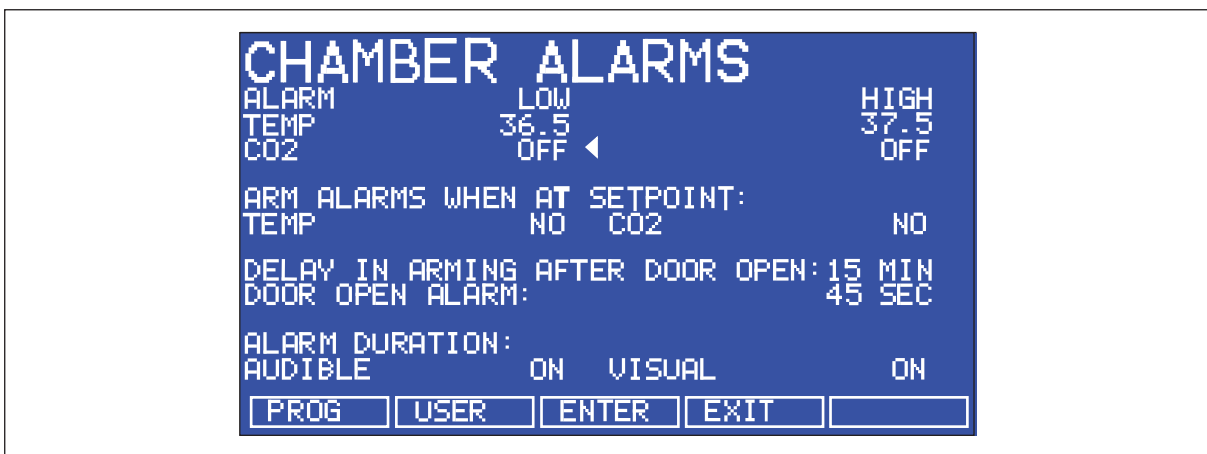

Fig. 6-8: *CHAMBER ALARMS* screen
The *CHAMBER ALARMS* programming screen (see Fig. 6-8 on p. 39) allows the various alarm options to be selected and modified. Press the ▲ or ▼ direction key to move around the options and the ◀ or ▶ direction key to adjust values. The temperature and CO2 High and Low Alarm setpoints automatically adjust to within ± 0.5 of the temperature and CO2 setpoints. The alarm setpoints can also be manually adjusted.
2. Select *NO* for both *TEMP* and *CO2* (see Fig. 6-8 on p. 39).
3. Choose the option *DELAY IN ARMING AFTER DOOR OPEN* and select the desired delay (15 minutes in the sample screen (Fig. 6-8 on p. 39)) to allow for temperature and CO2 recovery after the door has been opened.
A *DOOR OPEN ALARM*: can be adjusted, choosing from seven preset durations (45 seconds in (Fig. 6-8 on p. 39)) to warn of an improperly closed door.